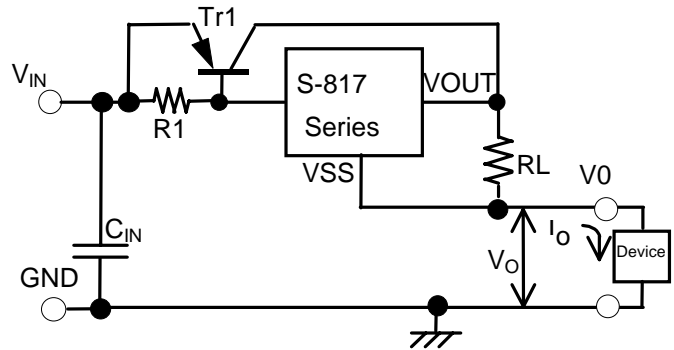

Figure 9 Constant Current Circuit
The S-817 Series can be configured as a constant current circuit. See Figure 9. Constant amperage I_O is calculated using the following equation
Please note that it is impossible to set constant amperage I_O in case of circuit (1) of Figure 9 to the value exceeding the drive ability of the S-817.
However, circuit (2) of Figure 9 is an example to set constant amperage to the value exceeding the drive ability of the S-817. Circuit (2) incorporates a current boosting circuit. The maximum input voltage of the constant current circuit is the value obtained by adding 10 V to voltage V_O of the device. It is not recommended to attach a capacitor between the S-817 power source V_{IN} and V_{SS} pins or between output V_{OUT} and V_{SS} pins because rush current flows at powering on. An example of input voltage between V_{IN} and V_O in circuit (2) vs. I_O current characteristics